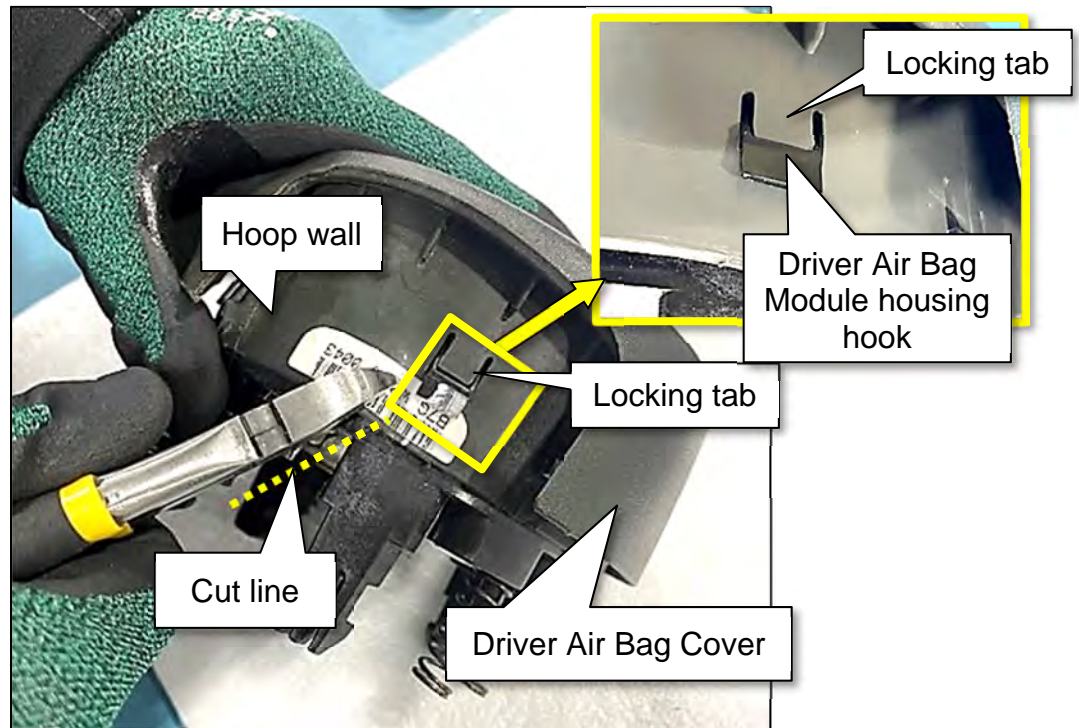

Figure 6
- Using a pair of suitable side cutters, cut the plastic hoop wall of the Driver Air Bag Cover diagonally to the bottom of the Driver Air Bag Module housing hook, as shown in Figure 6.